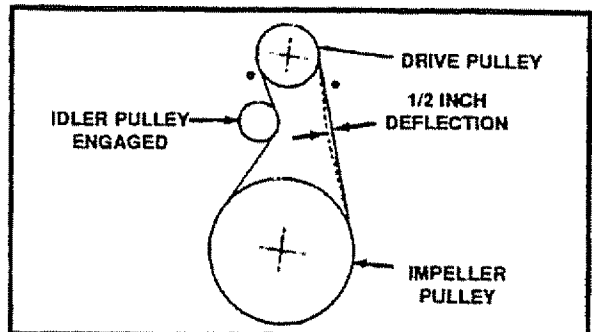

FIG. 24
- Press the auger drive lever. Check the tension on the belt (opposite idler pulley). The belt should deflect about 1/2" with moderate pressure (See Fig. 24).